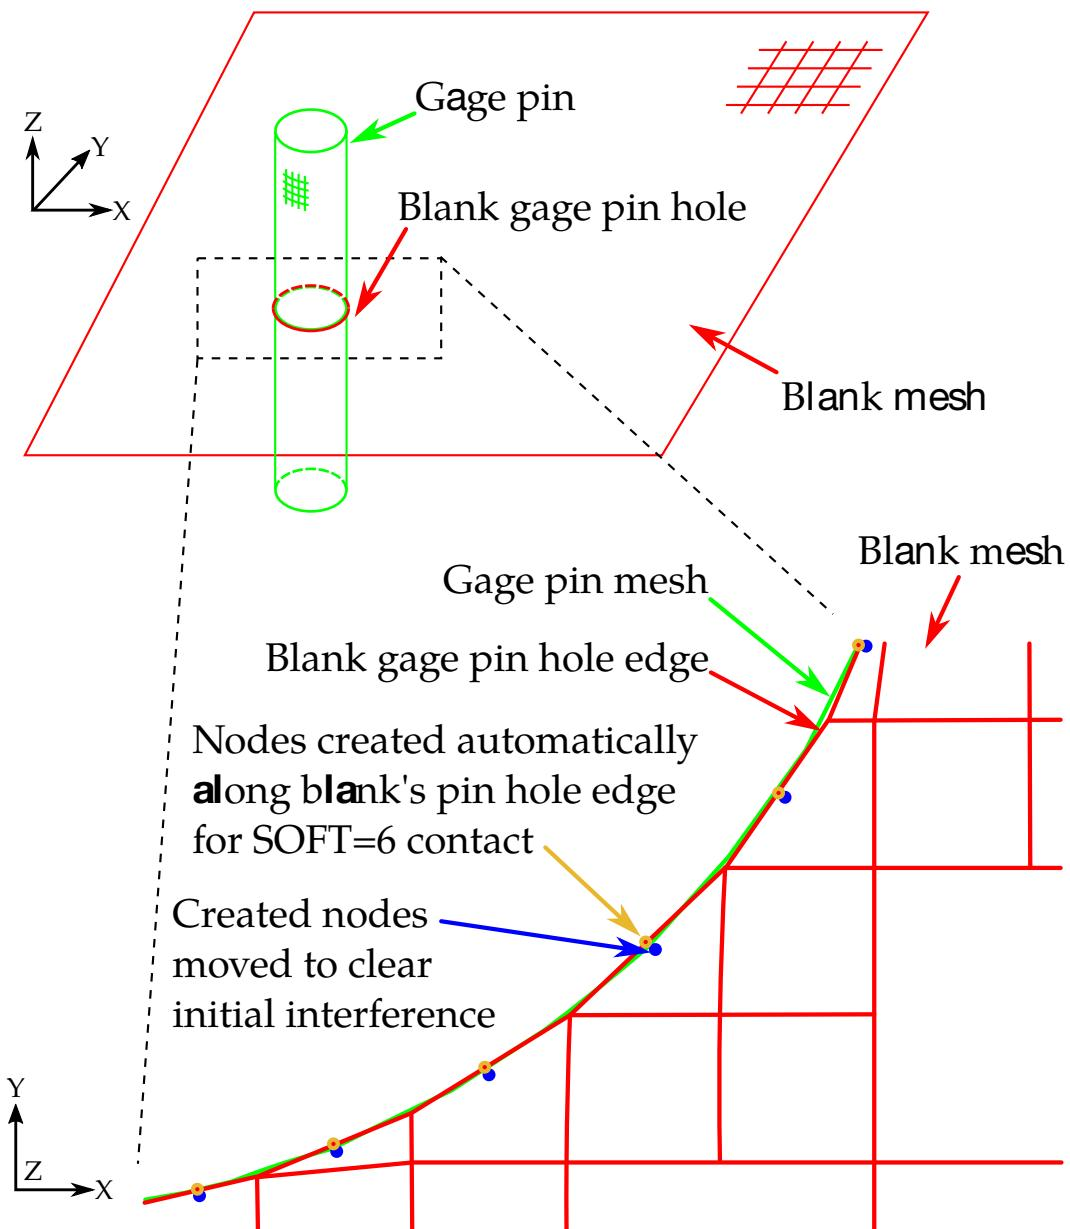

Figure 11-24. Improvement to SOFT = 6 for a coarse blank mesh
3. **Coarse meshes and initial contact penetration.** Sometimes a coarse blank mesh causes an initial contact penetration between the blank gaging hole edge and the gaging pin mesh. Starting with R11.0, this contact algorithm creates additional nodes on the blank along the hole edge and then moves the nodes to clear the initial penetration with the gage pin, as shown in Figure 11-24.